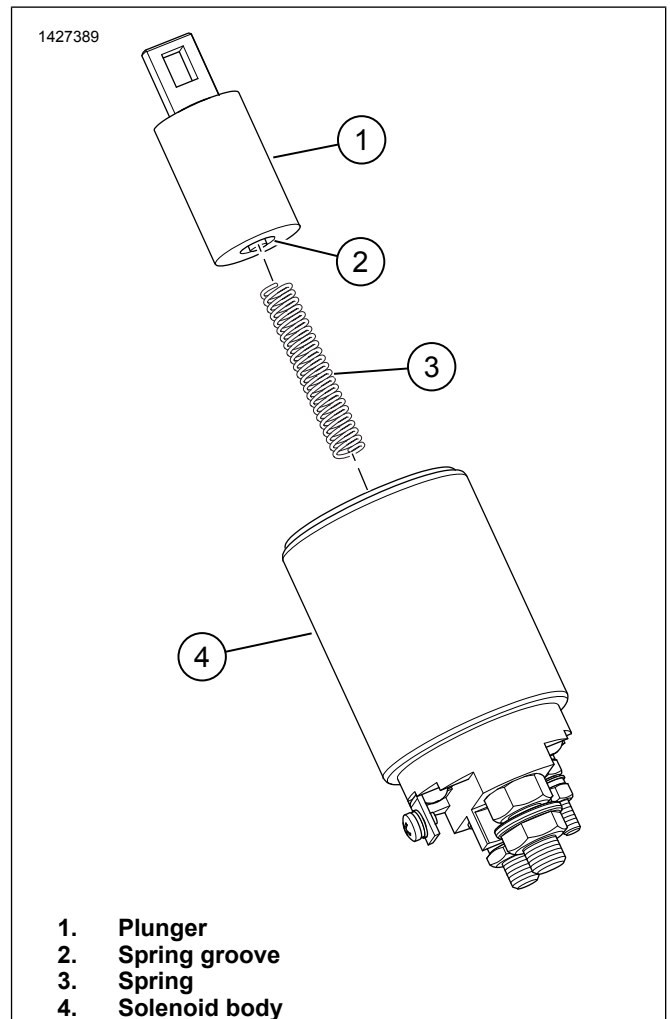
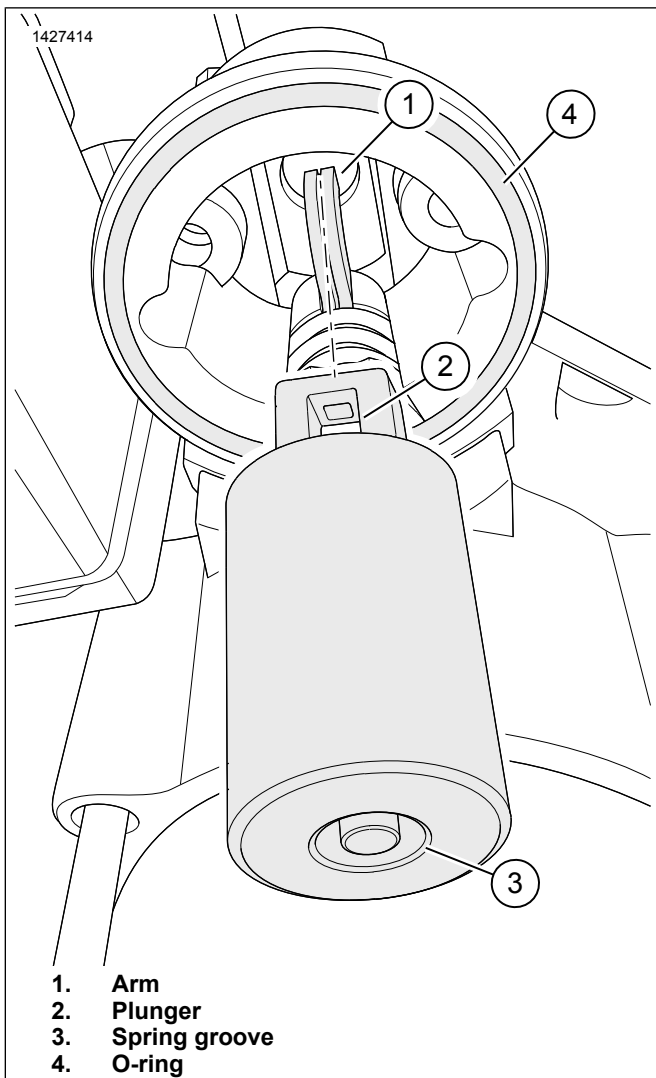
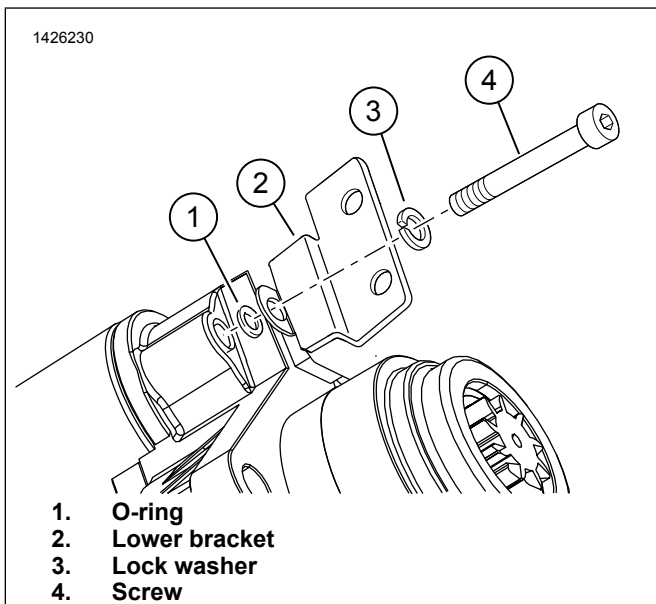

Figure 39. Solenoid Components
Figure 40. Solenoid Plunger Install
Figure 41. Contactor Z Lower Bracket
1. See Figure 40. Install plunger (2) with slot on arm (1).
2. Install O-ring (4).
3. See Figure 39. Place spring (3) in spring groove (2) on plunger (1).
4. Place solenoid body (3) in position with spring centered.
5. See Figure 41. Install O-ring (1).
6. Position lower bracket (2).
7. Move solenoid toward installed position and install screw (4) with lock washer (3). Tighten finger tight.